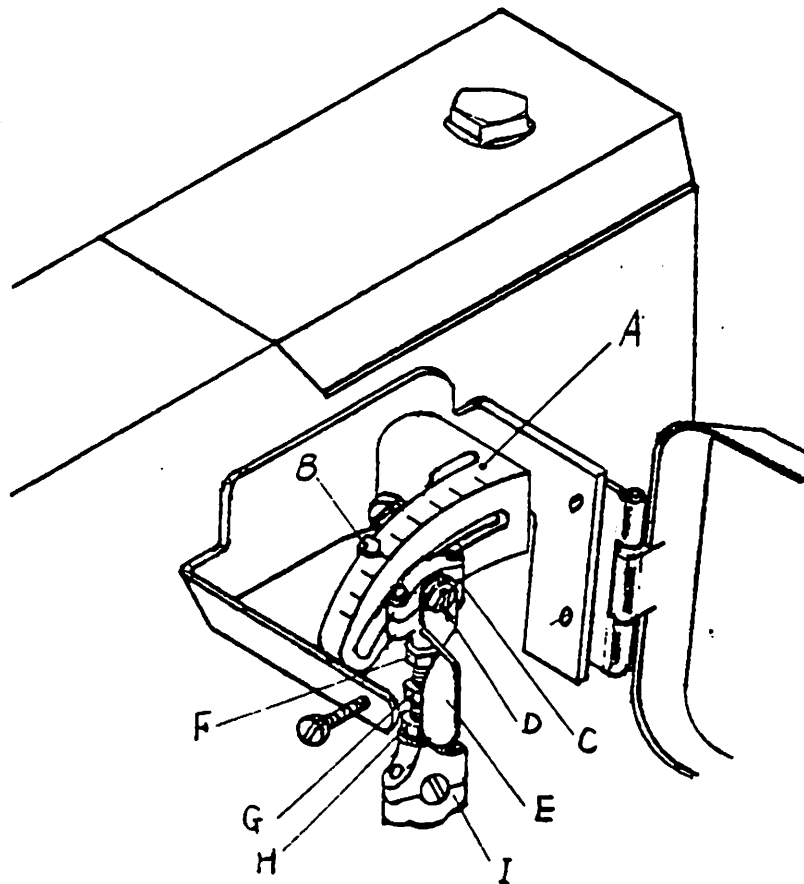

Fig 27
1. Please turn the E in Fig. 27 to left.